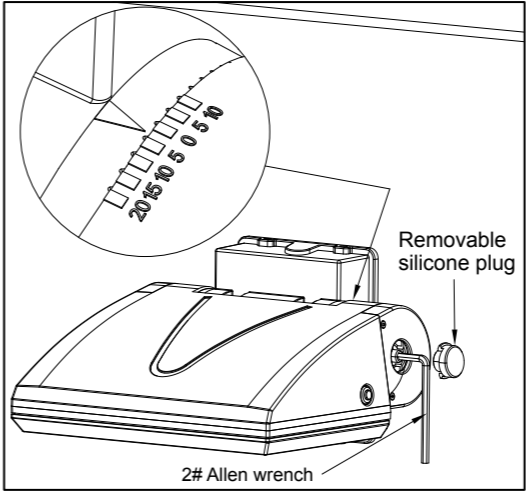

Figure 8
- 4). After the lamp is installed, you can adjust the appropriate irradiation angle through the rotating shaft on the side of the lamp. The specific operation is shown in Figure 8: You can pull out the silicone plug with bare hands, and turn the rotating shaft with a #2 hexagonal wrench. Rotate counterclockwise to loosen, and rotate clockwise to tighten.